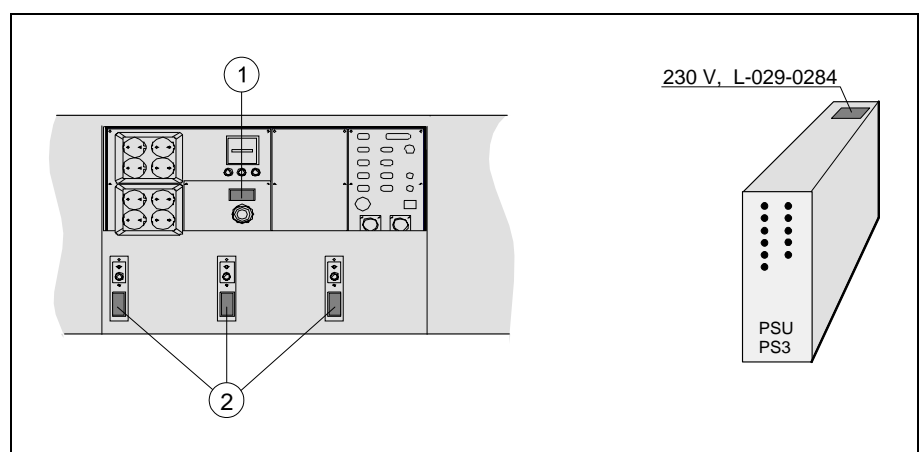

Figure 3-5. Configuration plugs
Figure 3-5 shows the rear panel with the type configuration plug (1) and the voltage configuration plugs (2).